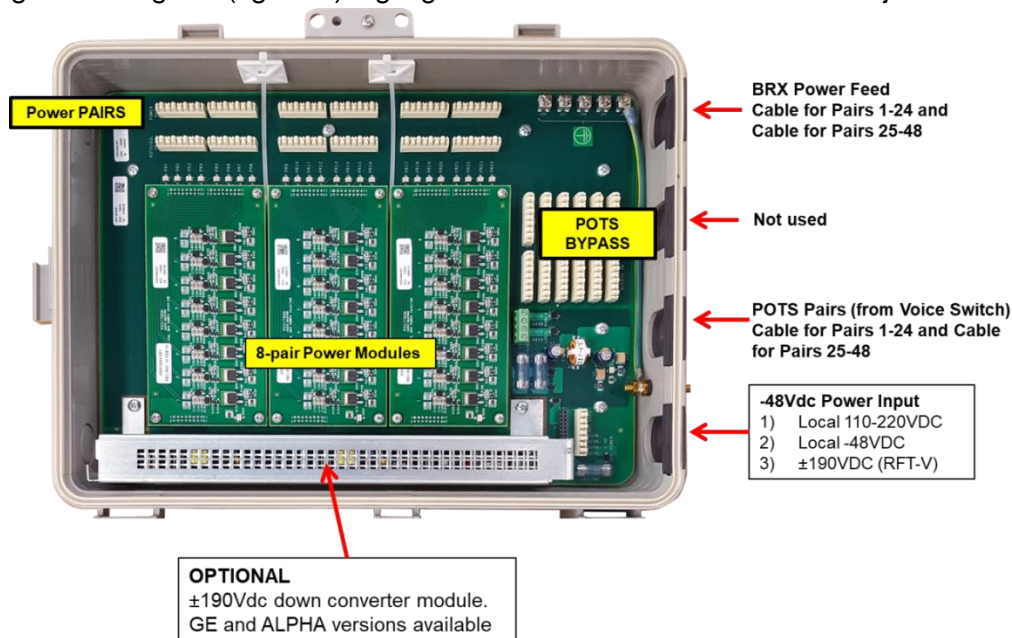

Figure 2: Inside the BRX Power Injector
The following block diagram (figure 2) highlights the inside of the BRX Power Injector:
The BRX Power Injector delivers a -48Vdc (0.5w) sealing current for each pair where a BRX amplification device is installed. Looking at figure 2, there are three (3) 8-pair power modules installed. The output of these power modules connects to the pairs from the POTS port of the DSLAM via a standard 110 punch down block (top left section of the picture). It is possible to connect two (2) 24-pair cables from the DSLAM. The opening allow for up to two cables for a total of 24 pairs powered from the BRX Power Injector and the remaining pairs passed through untouched.